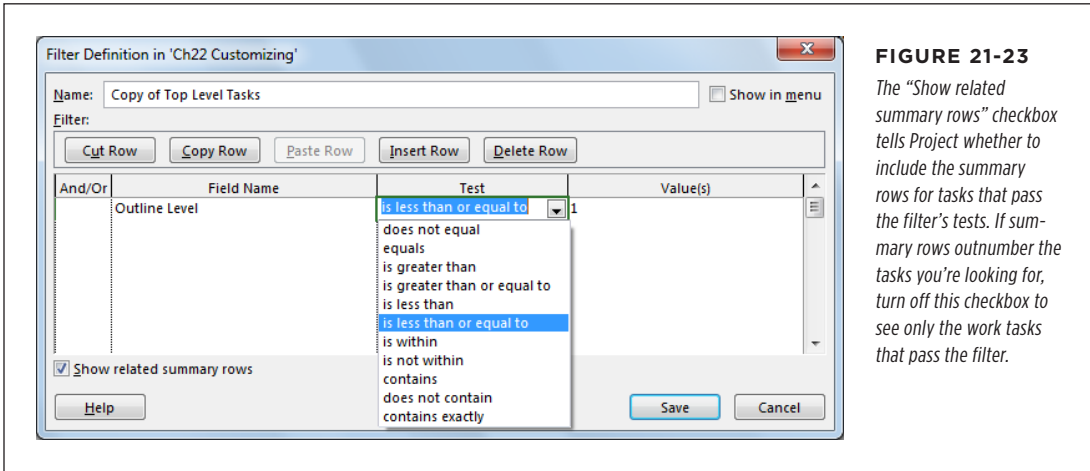

FIGURE 21-23
2. Select the Test cell, click the down arrow that appears, and then choose the type of test you want to apply, as illustrated in Figure 21-23. For the Outline Level filter, choose “is less than or equal to.”
If the field you’re testing is a Yes/No field, you can type *Yes* or *No*, or choose the values from the drop-down list. In Figure 21-23, the test checks to see if the outline level is less than or equal to 1.